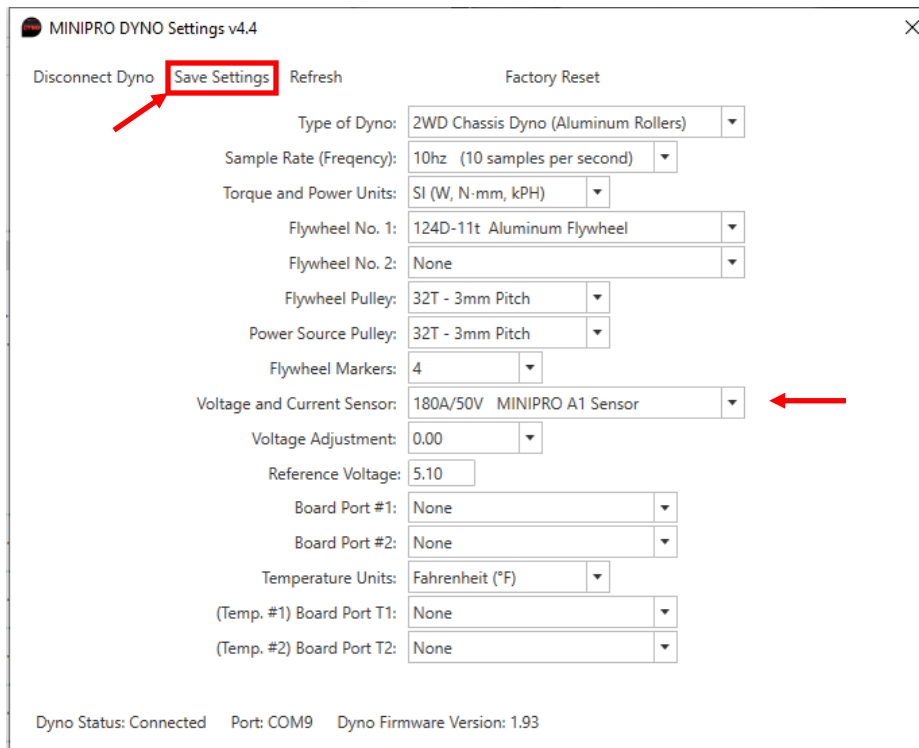

Figure 6: Settings Window for Software V4.4 and older
4. Select the Voltage and Current sensor from Voltage and Current Sensor drop-down option (see Figure 6).